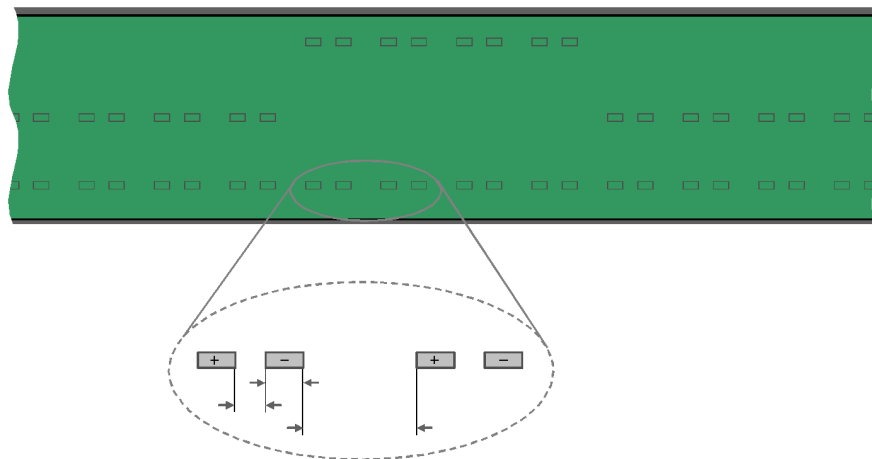

Figure 6 Cross Sectional View of XAUI Tx and Rx Signal Routing
- Keep each differential pair on the same plane and groups of four XAUI lanes on the same plane. To minimize crosstalk at the receiver, it is best to route groups of four Rx XAUI lanes that are physically adjacent at the switch chip on alternate layers (see . This is shown in Figure 6.
- Transmit XAUI lanes can be interleaved: P01_TA - P02_TA - P01_TB - P02_TB, etc. This is shown in Figure 6, and the reason for doing so is because the Tx signal traces are most effectively routed away from the switch chip in this manner. An example of the interleaved Tx signal routing at the switch chip is also shown in Figure 6. This is allowed electrically because the crosstalk is small (about 10 mV). Since all the Tx